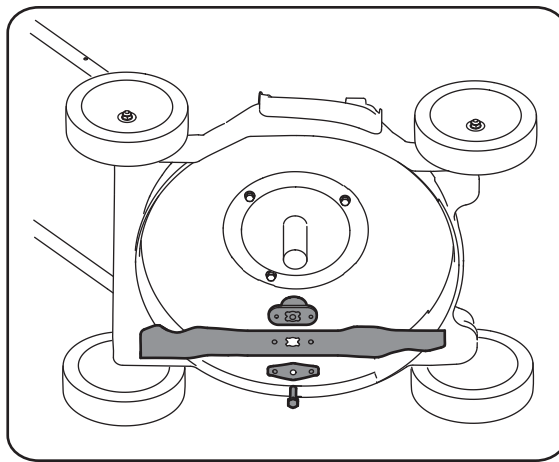

Figure 11
3. Remove the bolt and the blade bell support which hold the blade and the blade adapter to the engine crankshaft. See Figure 11.
9. Install the blade adapter on the crankshaft with the “star” away from the engine. See Figure 11. Place the blade with the side marked “bottom” (or with part number) facing away from the adapter. Align the blade bell support over the blade with the tabs in the holes of the blade and insert the hex bolt.